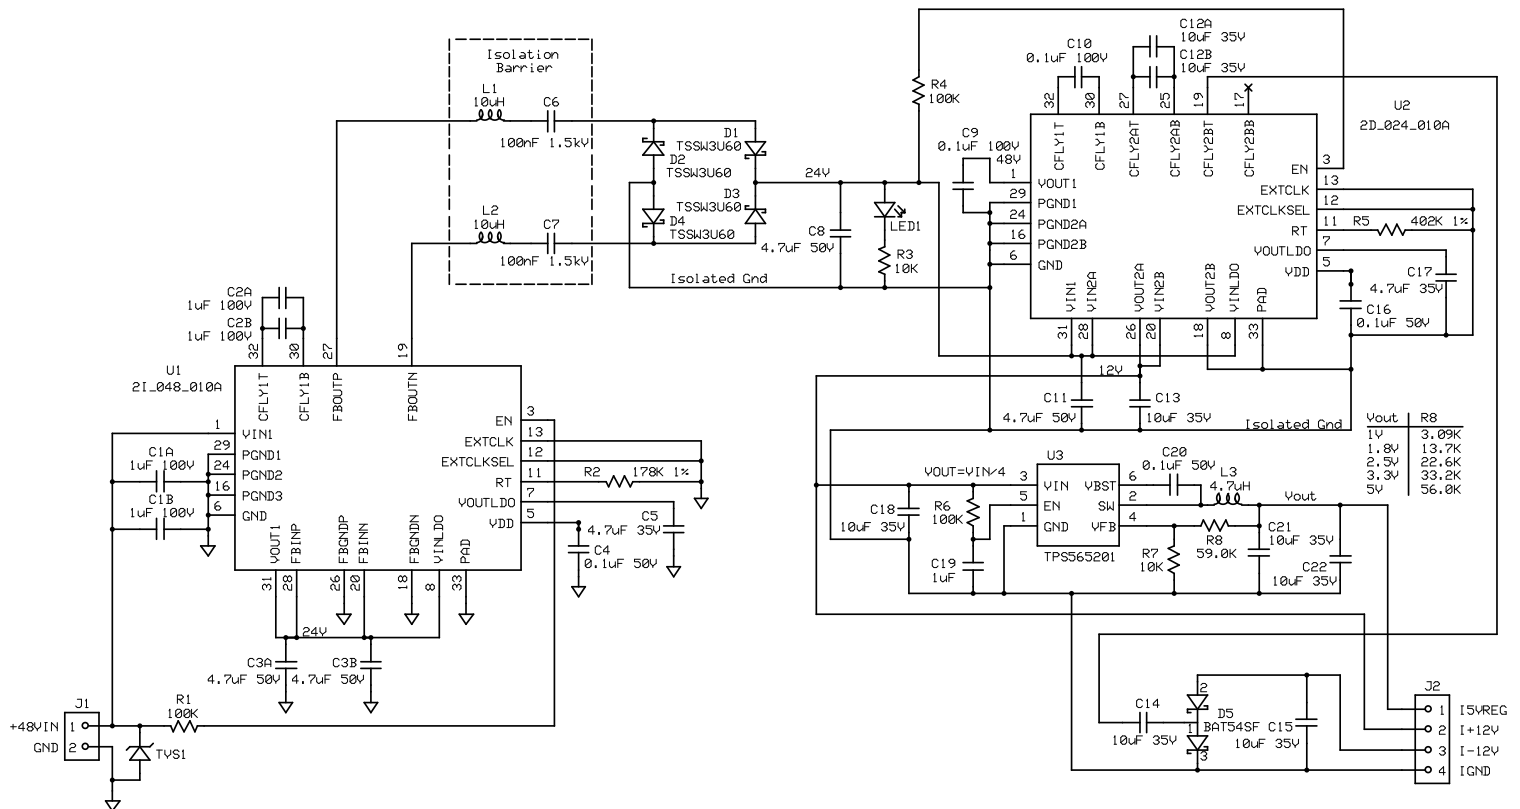

Figure 14: MxC 273 48V to $\pm 12V$ & $+5V_{reg}$ Output TL EVB Schematic
- 3) Other buck regulator output voltages are available by changing R8. Refer to the VOUT Table in Figure 14 schematic.
- 3) Other buck regulator output voltages are available by changing R7. Refer to the VOUT Table in Figure 14 schematic.